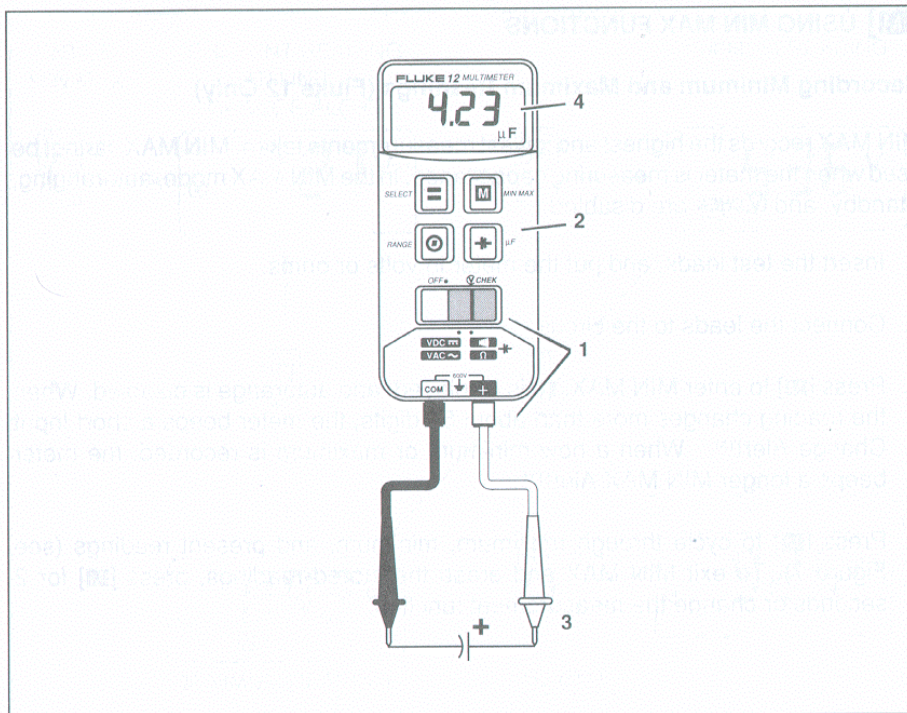

Figure 6. Measuring Capacitance
1. Insert test leads, and move the slide-switch to H←. (See Figure 6.)